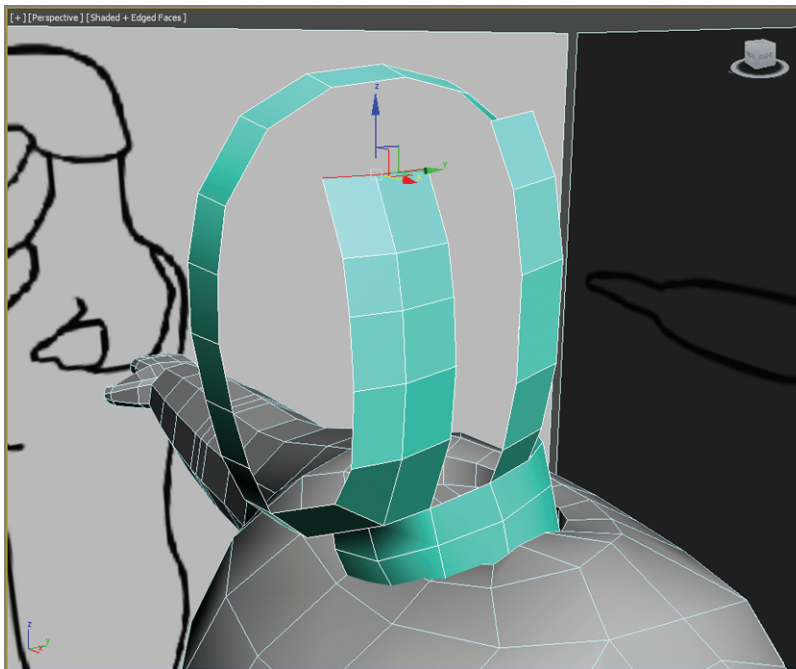

FIGURE 9.7 Extrude a new strip; match the segments.
9. On the side of the head, match the number of segments with the segments on the outer head strip you already created. The result is shown in Figure 9.7.